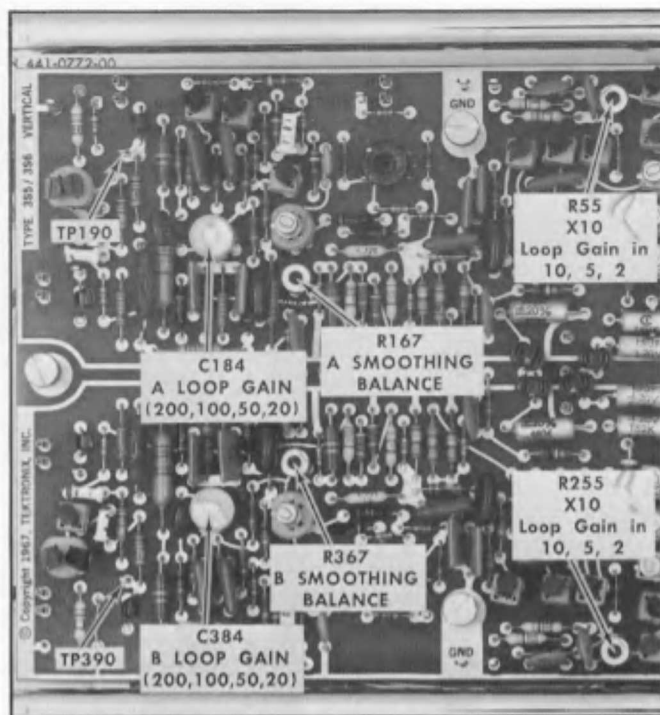

Fig. 7-10. Vertical circuit board control locations, left side.
d. Connect the test oscilloscope 10 \times probe to TP390 (or TP190 for Channel A), see Fig. 7-10. Free run the test oscilloscope, sweep rate of 1 ms/div and vertical deflection factor of 1.0 V/div (including the probe 10 \times attenuation).
f. Adjust the Loop Gain (200, 100, 50, 20) capacitor C384 (C184 for Channel A) until the two indicator oscilloscope traces are exactly 5 major divisions apart. See Fig. 7-10 for capacitor location. The test oscilloscope display should indicate exactly 2.5 volts difference between the two traces
If the sampling head output signal is greater than that stated in part a at the beginning of this step, and at the same time the sampling display shows greater than unity loop gain, adjust the Type 3S6 Loop Gain control, C184 (C384 for Channel B), for unity loop gain. See Fig. 7-10 for locations.